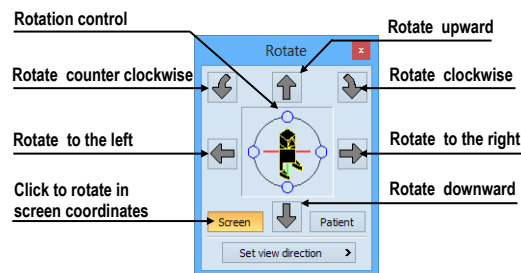

Figure 304 – Rotate tool (Screen mode)
- rotation in screen coordinates (see Figure 304)